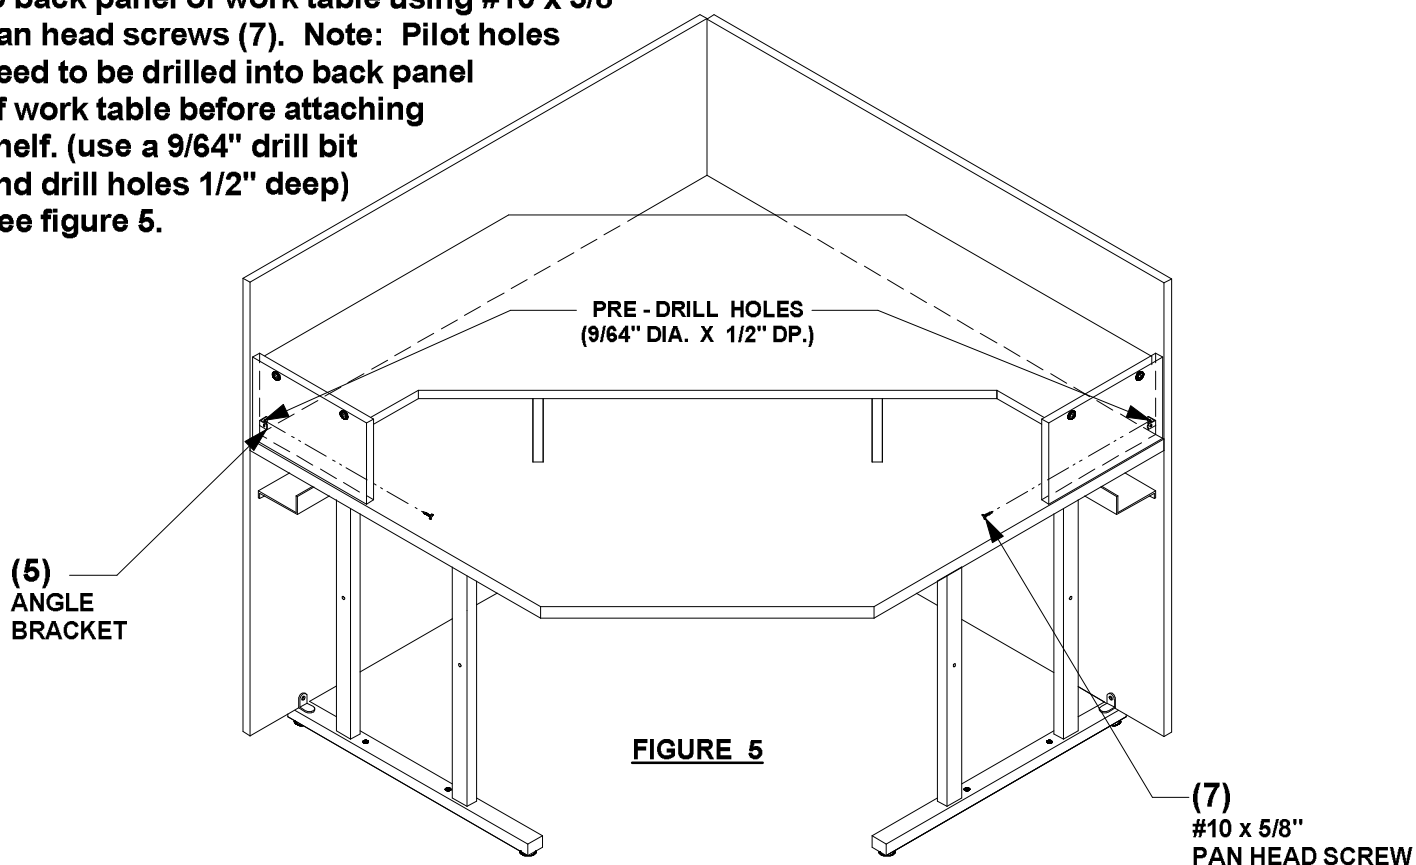

FIGURE 5
5. Attach shelf with pre-mounted angle brackets (5) to back panel of work table using #10 x 5/8" pan head screws (7). Note: Pilot holes need to be drilled into back panel of work table before attaching shelf. (use a 9/64" drill bit and drill holes 1/2" deep) See figure 5.